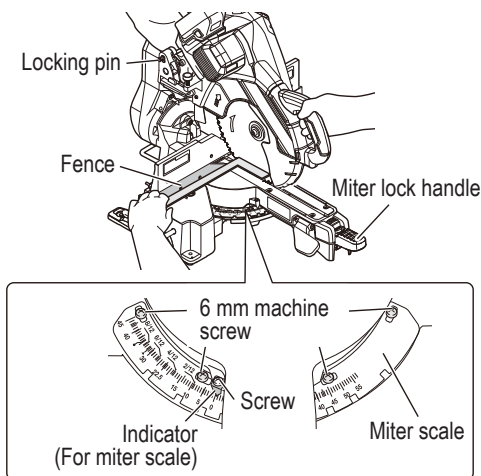

Fig. 26
- Down the head and insert the locking pin. Unlock the miter lock handle and swing the turntable until the positive stop locks it at the 0° miter position. Do not lock the miter lock handle. Place a square against the saw's fence and blade, as shown in Fig. 26 (Do not touch the tips of the blade teeth with the square. To do so will cause an inaccurate measurement.) If the saw blade is not exactly perpendicular to the fence, loosen the 6 mm machine screws (4 pcs.) that hold the miter scale and move the miter lock handle and the scale left or right until the blade is perpendicular to the fence, as measured with the square. Retighten the 6 mm machine screws (4 pcs.). (Fig. 26) Pay no attention to the reading of the indicator (for miter scale) at this time.
Observe the indicator (for miter scale) and miter scale as shown in Fig. 26. If the indicator (for miter scale) does not indicate exactly 0° loosen the 4 mm screw holding the indicator (for miter scale). In place reposition the indicator (for miter scale) and tighten the 4 mm screw.